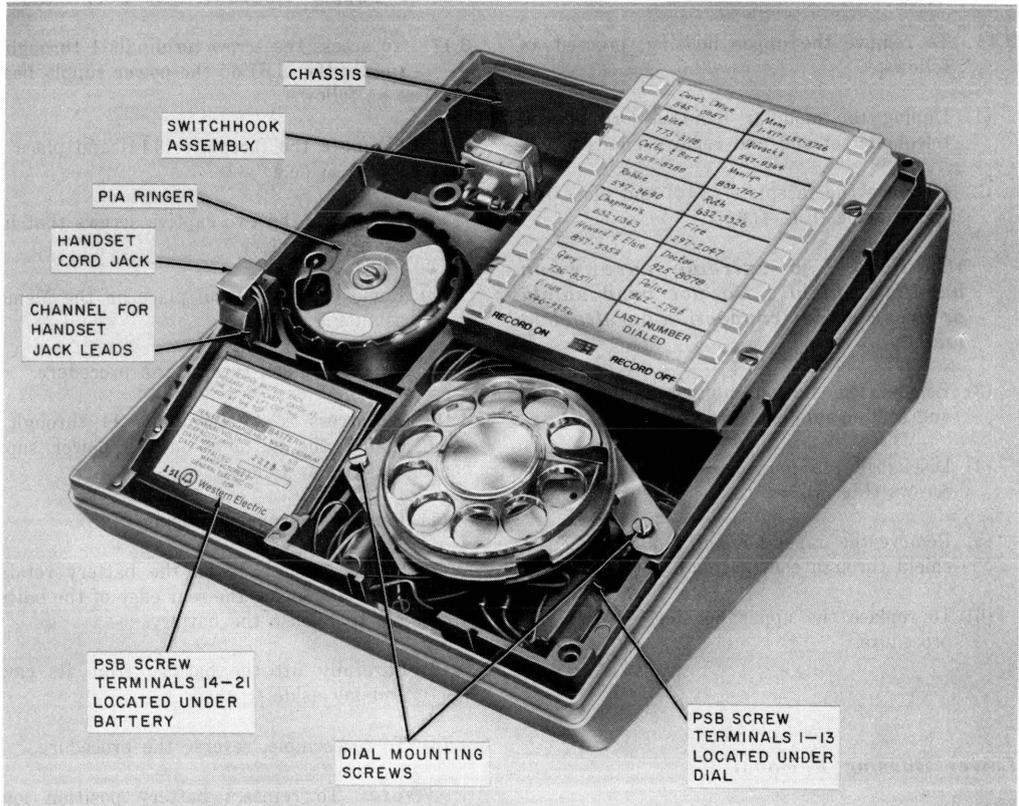

Fig. 5—960A01M Telephone Set With Handset, Faceplate, Shield and Upper Housing Removed
- **Battery**—snaps into a cavity from the top side in the left front corner of the chassis (Fig. 5).
- **Ringer**—fastened by two screws to bosses on the bottom of the chassis (Fig. 7A) and rests in a cavity just to the rear of the battery cavity (Fig. 5).
- **Handset Jack**—slides into a cavity on the top left side wall of the chassis adjacent to the ringer and battery (Fig. 5).
- **Switchhook Assembly**—soldered to power supply printed wiring board and located at left-rear corner of power supply board (PSB) (Fig. 5).
- **Power Supply Printed Wiring Board Screw Terminal Areas**—(Fig. 5 and 6).
including the upper and lower housings (Fig. 5 and 7).
power to the set is continuously maintained. To replace the battery, proceed as follows (Fig. 5):